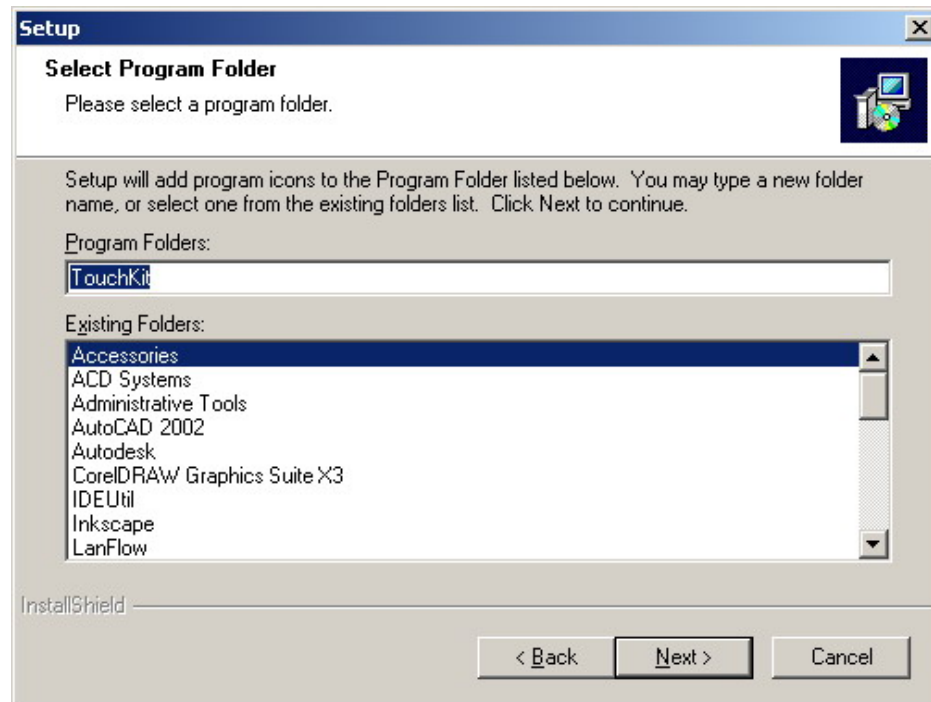

Figure 7-9: Program Icon Directory
Step 12: The user is then prompted to select a file directory in which the program icons are saved (**Figure 7-9**). The default folder is "TouchKit." If a different folder must be used, select a folder from the list shown. Once the folder is selected, click **NEXT** to continue.